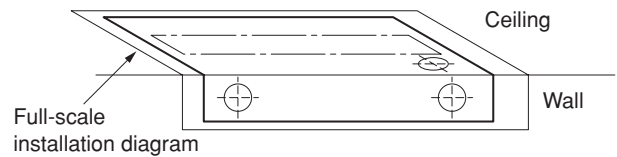

Fig. 3-37
- (1) Place the full-scale diagram (supplied) on the ceiling at the spot where you want to install the indoor unit. Use a pencil to mark the drill holes. (Fig. 3-37).